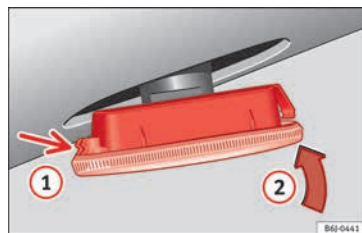

Fig. 115 Turn signals.
- First fit the turn signal in the opening in the chassis, fastening the tabs **1** » Fig. 115, and then fit in the bulb as shown by the arrow **2** » Fig. 115.